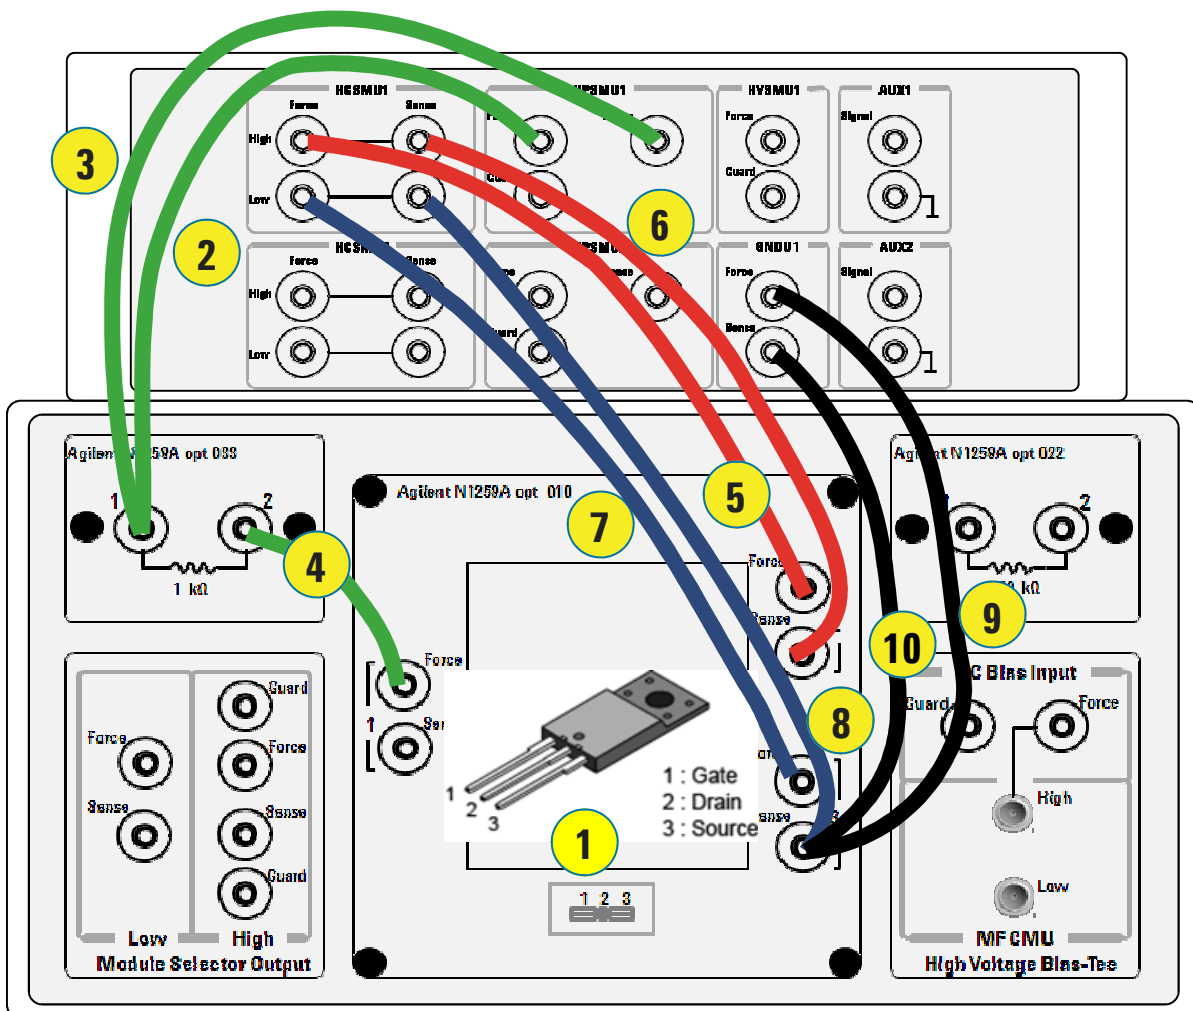

Figure 3-4. Connection between the SMUs and the power MOS-FET fixture
Open the N1259A test fixture cover, and connect the test leads shown in figure 3-3 by following the step numbers as shown in figure 3-4.
*Note: The available colors of the leads are black and red only. The lead color used in figure 3-4 is for reference only.*
- Step 1. Insert the power MOS-FET (example: IRFP2907 or 2SK3745LS) into the socket on the N1259A. Make sure the device pin name matches the socket numbers shown in figure 3-4.